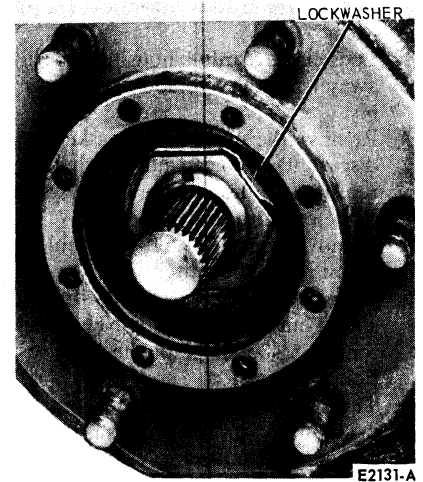

FIG. 4 Lock Nut and Washer Assembled
4. Bend the tab of the lock washer away from the lock nut and remove the lock nut (Fig. 4).